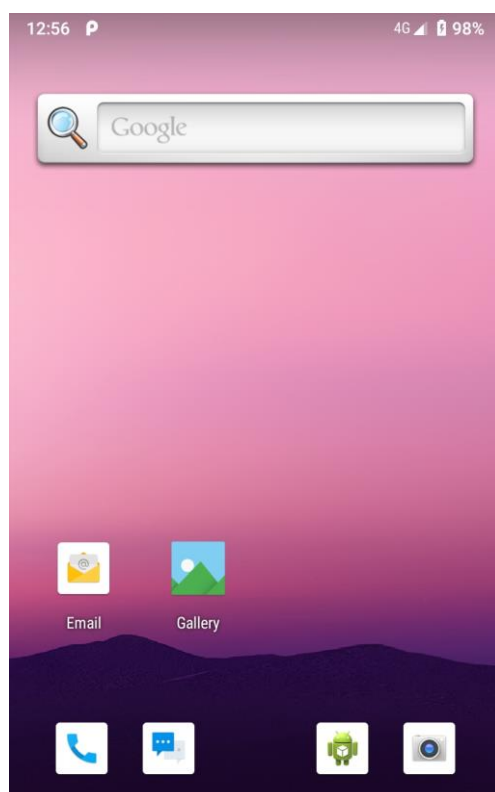

Fig 1
4. Push the power key, after system loads, the basic Android™ screen will appear on the screen if connected to the module. (See fig 1 as sample basic screen).